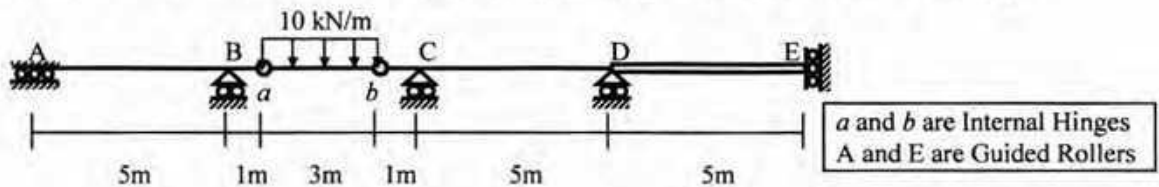

Fig. 7
7. Use the Flexibility Method (considering flexural deformations only) to draw the bending moment diagram of the beam loaded as shown in Fig. 7 [Given:  $EI_{DE} = 2 EI_{ABCD} = 80 \times 10^3 \text{ kN-m}^2$ ].
9. Use the Moment Distribution Method to calculate the joint moments and draw the bending moment diagram of beam ABCDE shown in Fig. 7.
11. For the beam ABCDE shown in Fig. 7, draw the qualitative influence lines of support reactions  $R_B$ ,  $R_C$ , shear forces  $V_{C(\text{Left})}$ ,  $V_{C(\text{Right})}$  and bending moments  $M_A$ ,  $M_D$ ,  $M_E$ .
12. For the beam ABCDE shown in Fig. 7, calculate the maximum value of  $R_D$  (reaction at support D) for a uniformly distributed dead load of 10 kN/m, a moving uniformly distributed load of 5 kN/m and a moving concentrated load of 20 kN.
14. A 2-span beam with the bending moment diagram is shown in Fig. 7. The moments in brackets correspond to factored moments at ultimate condition. If  $f_c = 3$  ksi;  $f_y = 60$  ksi;  $f_s = 24$  ksi,  $n = 9$  design the beam by WSD and USD.